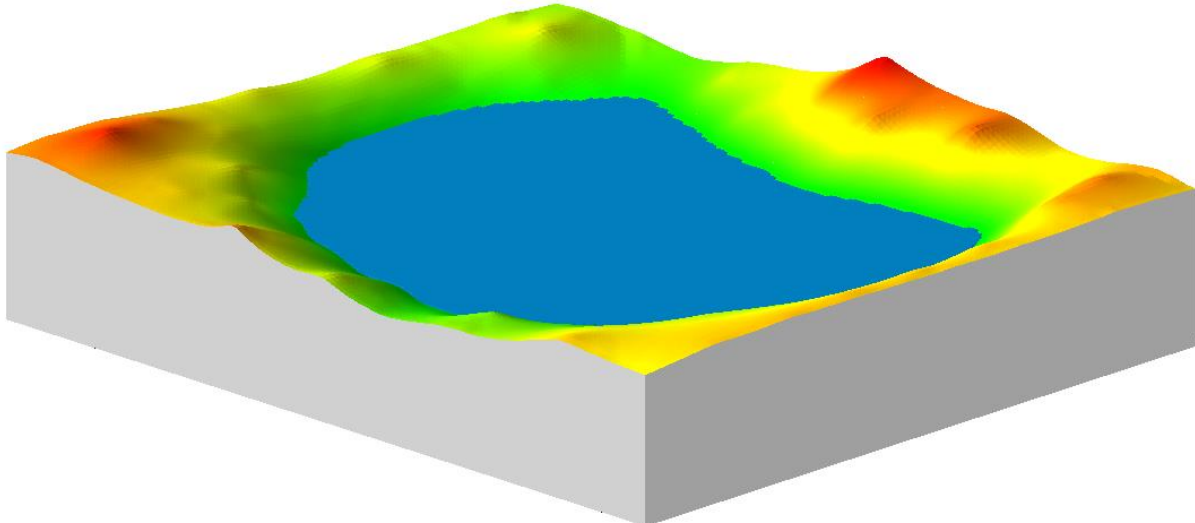

Figure 22
- When combined with the 3D pit diagram (via the Plot3D / File / Append option), the lake is nestled within the pit (Figure 22).